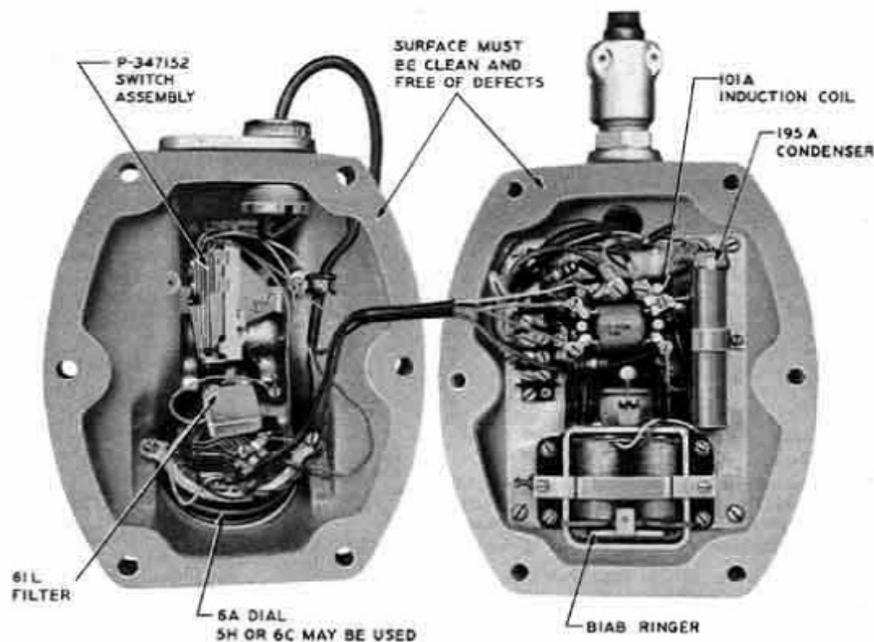

Fig. 2—KS-14476, L1 Telephone Set, Internal View
2.02 The ringer, dial, and switchhook assembly inside the housing are connected to shafts which transmit the required motion through the housing (see Fig. 2). Ringer gongs are exposed on the bottom of the set.